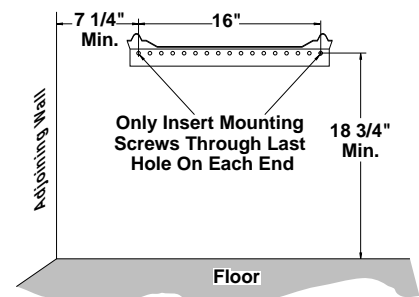

Figure 7 - Mounting Bracket Clearances
2. Mark screw locations on wall (see Figure 7).
⚠ WARNING: Maintain minimum clearances shown in Figure 7. If you can, provide greater clearances from floor and joining wall.